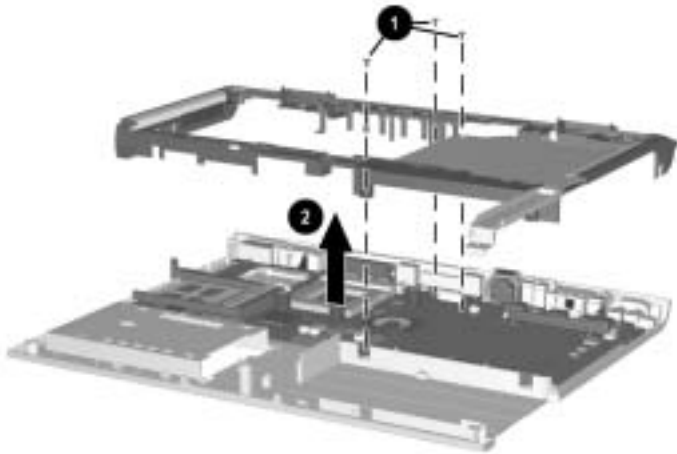

Figure 5-39. Removing the Top Cover
5. Remove the three TM2.5 × 5.0 screws ❶ that secure the top cover to the base enclosure (Figure 5-39).
6. Remove the top cover from the base enclosure ❷.